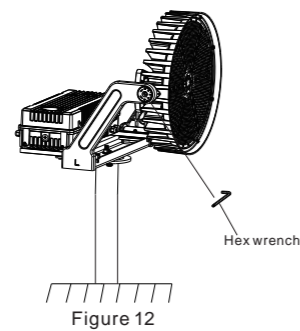

Figure 12
2. Use hex wrench to loosen the screws for adjusting the angle (Figure 12) ;